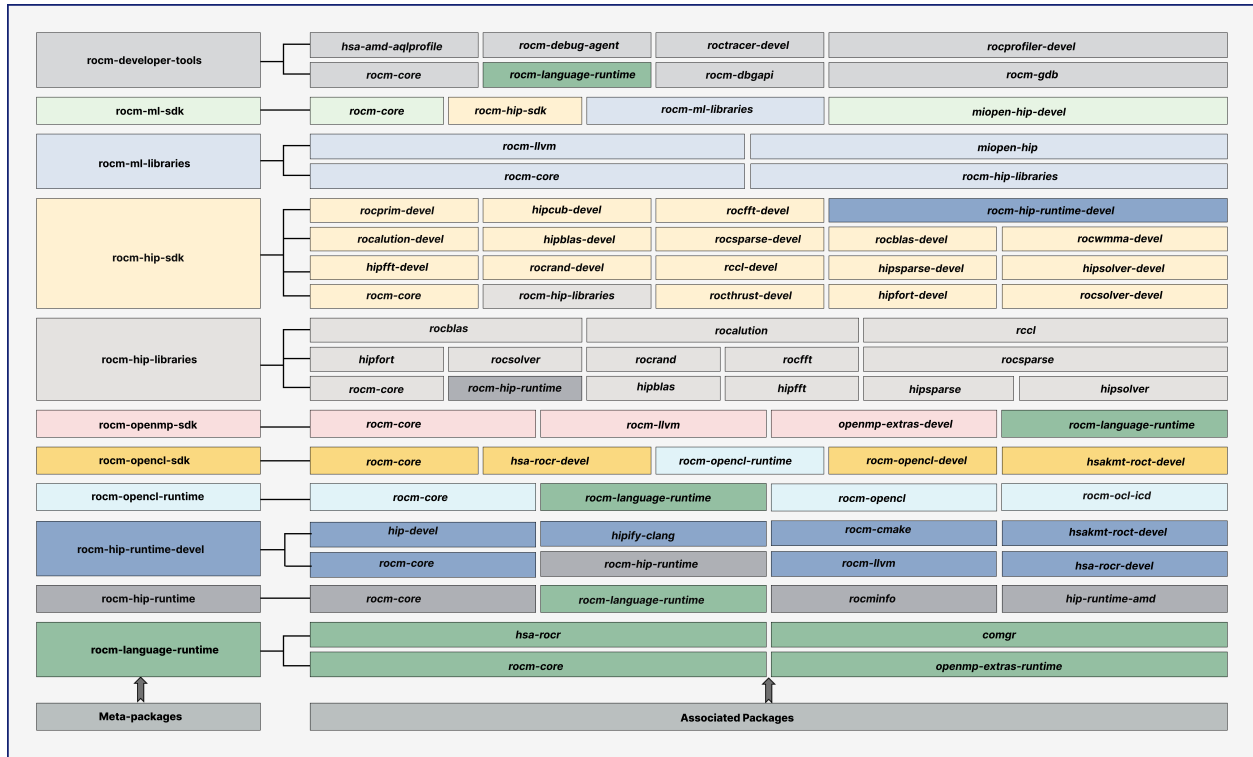

Fig. 3.4: Associated Packages
**Note:** Fig. 3.4 is for informational purposes only, as the individual packages in a meta-package are subject to change. Install meta-packages, and not individual packages, to avoid conflicts.